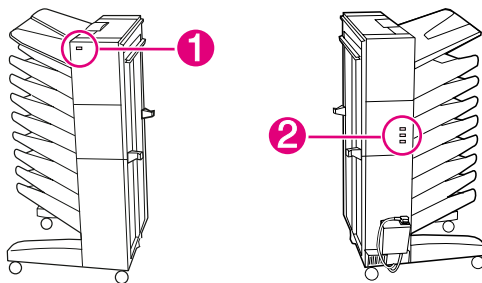

Figure 7-23 8-bin Mailbox LEDs Description
- **User LED.** The first is a single LED located on the right side of the top cover (Figure 7-23, callout 1). This User LED provides information to the end user about the 8-bin Mailbox power-on status and the attachment and alignment to the printer.
- **Service LEDs.** The second set is formed by three independent LEDs located in the middle of the left side cover (Figure 7-23, callout 2). This group is called the Service LEDs, and they show additional technical information to decode the 8-bin Mailbox status.